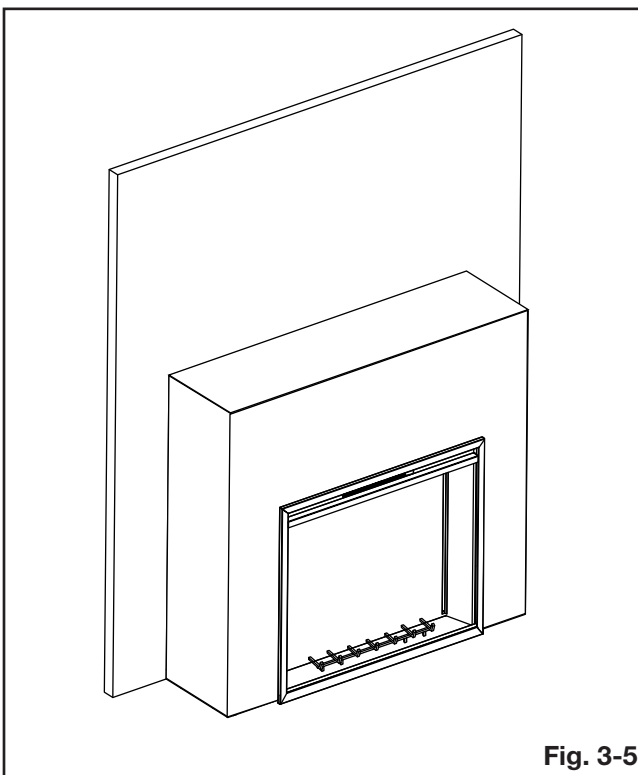

Fig. 3-5
5. Carefully lift the appliance into the rough-in framing (**Fig. 3-5**).